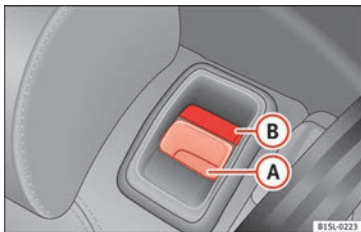

Fig. 136 Rear seat: unlock button (A); red marking (B)
- Pull the unlock switch » Fig. 136 (A) forwards whilst simultaneously lifting the rear seat backrest.
- The rear seat backrest is not engaged when the red marking of the button (B) is visible.